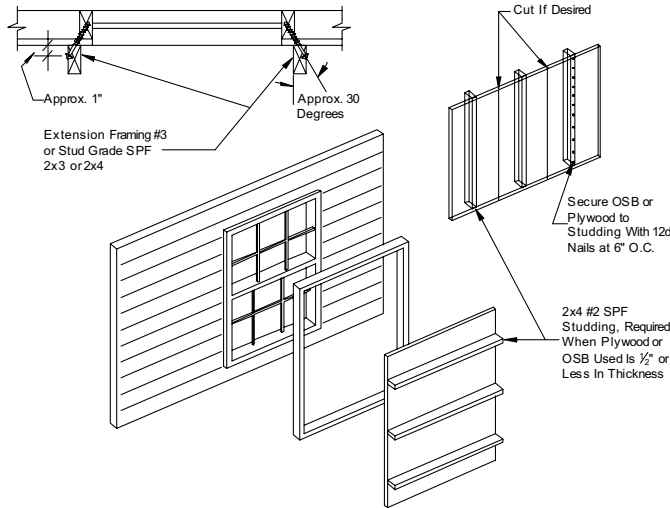

Figure 97. Wind protection shutter construction
If desired, prepare temporary protective window covers for use during severe wind storms and hurricanes according to **Figure 97, Table 27**, and the procedure below.
- 2.** Assemble shutter panels as shown in **Figure 97**.